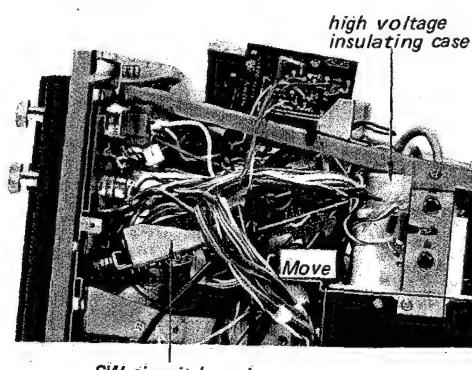

Fig. 2-15.
6. Move the SW circuit board toward the High Voltage Insulating Case as shown in Fig. 2-15.